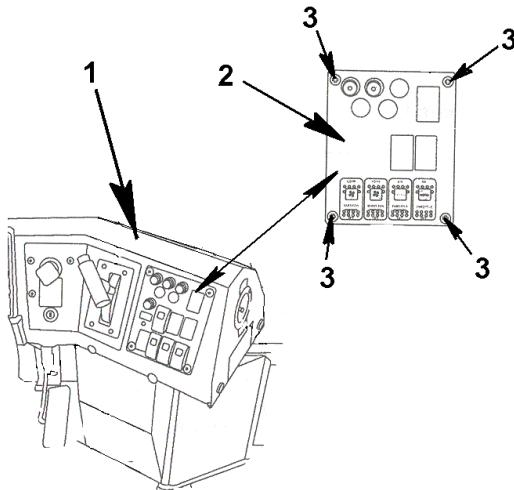

Figure 144 Right Wing Switch Panel Removal
- d. To remove right wing switch panel, locate the four mounting screws (Fig. 144, Item 3) attaching the switch panel assembly. Loosen and remove.